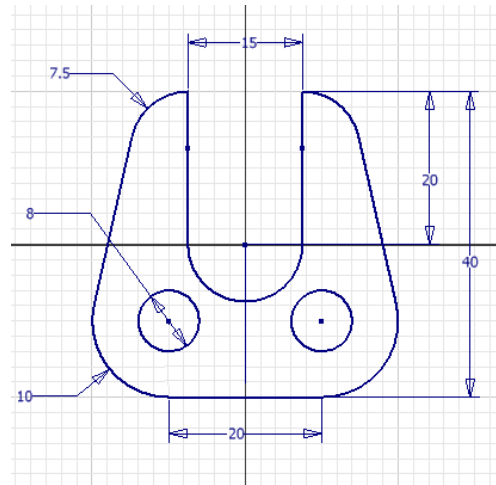

Figure 3-62 The final dimensioned sketch for Tutorial 3
- c. Draw inner circles and add constraints and dimensions to them, refer to Figure 3-62.
Notice that the size of the right circle is automatically modified to match the dimension of the left circle. This is because the **Equal** constraint is applied between the two circles. The final sketch for Tutorial 3 after drawing and dimensioning circles is shown in Figure 3-62.